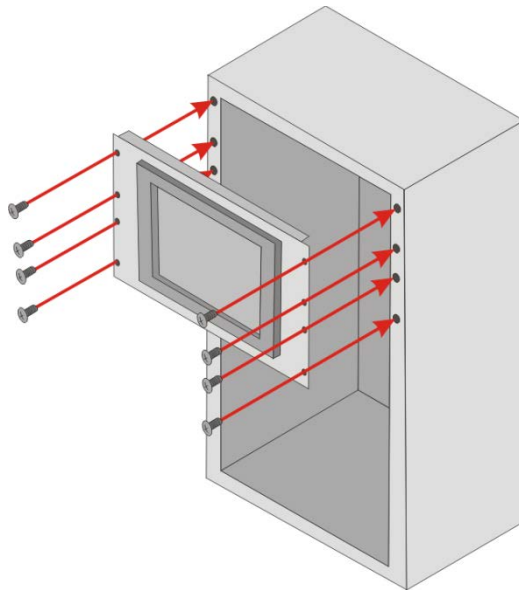

Figure 3-24: Install into a Rack/Cabinet
Step 4: Slide the PPC-F06B-BT with the attached rack/cabinet bracket into a rack or cabinet (**Figure 3-24**).
Step 5: Once the flat panel PC with the attached rack/cabinet bracket has been properly inserted into the rack or cabinet, secure the front of the rack/cabinet bracket to the front of the rack or cabinet (**Figure 3-24**).